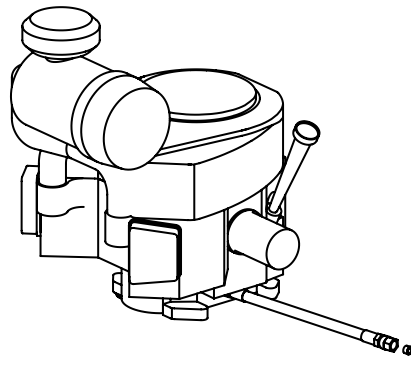

Figure 4-4
- Locate the oil drain hose on the engine. See Figure 4-4.
- While holding the free end of the oil drain hose over the oil collection container, unscrew the square-head hose plug from the end of the hose. See Figure 4-4. Drain the engine oil into the collection container.